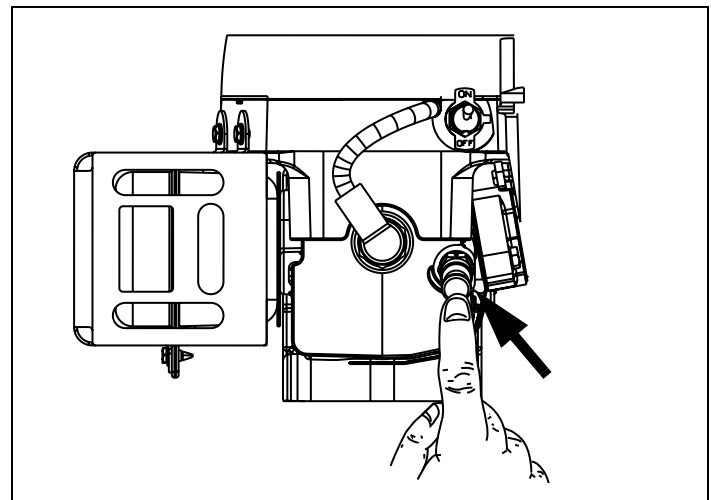

Figure 23. Yellow Compression Relief Valve
- Push yellow compression relief valve in. See Figure 23.